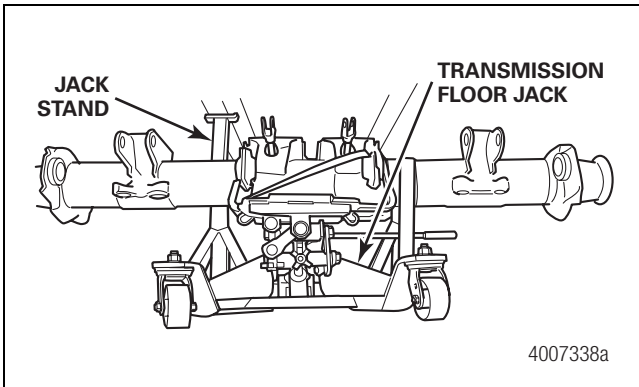

Figure 33
- Move the axle under the chassis and raise it into position. Figure 33.